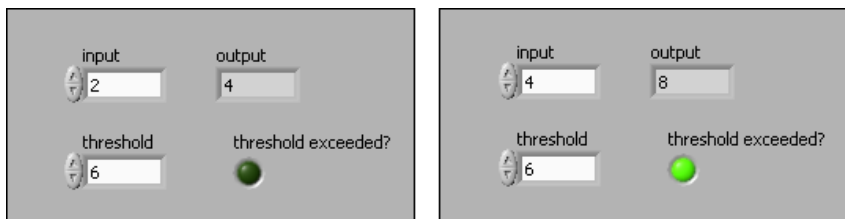

Figure 17. Increasing Input Causes Output to Exceed Threshold and Lights the LED
4. Enter different values in the **input** numeric control. In Figure 17, the front panel on the left does not exceed the threshold value. If you enter a number greater than the threshold, the **threshold exceeded?** LED lights as shown in the front panel on the right in Figure 17.